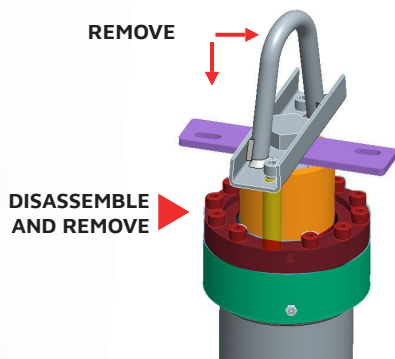

Figure 5
3. Lift the top part of the piston and remove the metal protection; remove the bubble wrap protection. Carefully, place the piston onto the ground. **(Fig 5)**